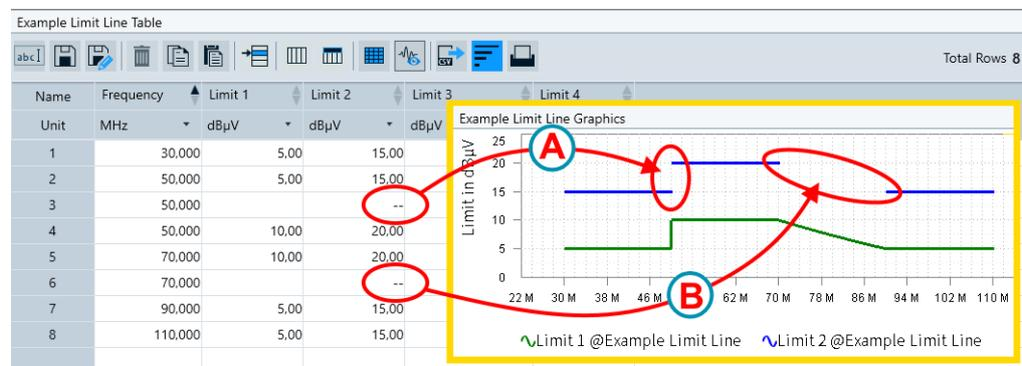

Figure 4-43: Examples of entries in a limit line table, and resulting graphics
- For a "vertical gap" (labeled (A) in Figure 4-43), use the same frequency as in the 1st row
- For a "horizontal gap" (labeled (B) in Figure 4-43), use any frequency between the 1st row and the 3rd row